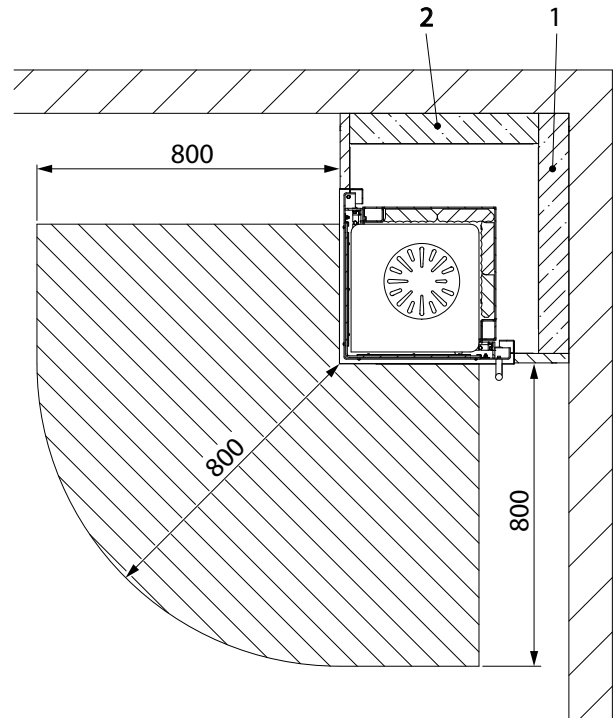
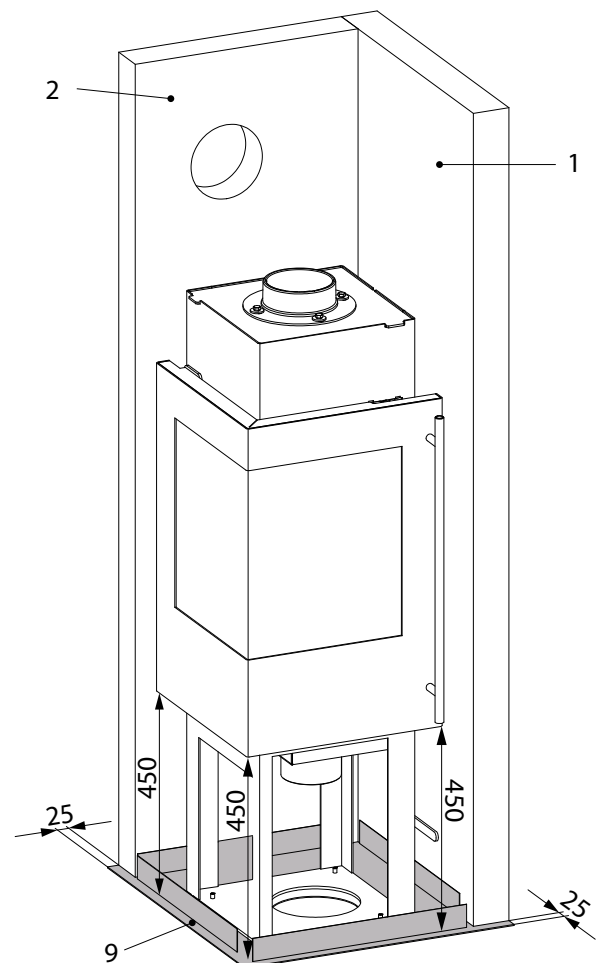

Fig.3
Fig.4
- Determine the installation location. The stove can be installed flush with the wall on 2 sides. There must be no objects made of combustible materials within a distance of 80 cm of the stove's radiation area, measured from the combustion chamber's inspection glass, nor may any be placed within this area subsequently see Fig.3).
- Position the bottom plate (9, Fig.4) at the installation location in such a way that the two 80mm thick insulation panels 1+2 face the mounting walls (see Fig.3).
- Align the stove such that the distance between the bottom plate and the bottom edge of the combustion chamber door is 450mm all around (see Fig.4).
- Set up insulation boards 1+2 and, if necessary, fix them in place on the mounting walls using a few adhesive joints. When installing the stove on 1 side with the mounting wall behind insulation board Pos.2, you can also screw the two insulation boards together using 3 chipboard screws $\varnothing 6 \times 140$ (17) (no pre-drilling and countersinking necessary). In any case, both boards must be glued together one below the other.